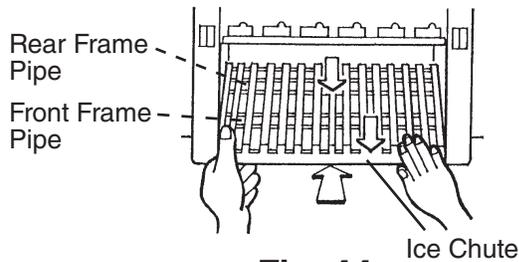

Fig. 44
- 13) Position and lock the ice chute onto the front and rear frame pipes by pushing the ice chute down until it clicks onto both frame pipes. See Fig. 44.